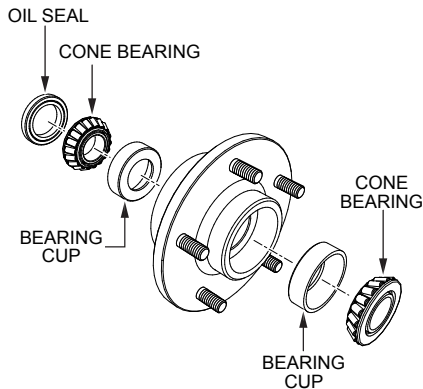

Figure 39. Wheel Hub and Bearings
1. After **every 3 months** of operation, remove the hub dust cap and inspect the wheel bearings (Figure 39). Once a year, or when required, disassemble the wheel hubs remove the old grease and repack the bearings forcing grease between rollers, cone and cage with a good grade of high speed wheel bearing grease (never use grease heavier than 265 A.S.T.M. penetration ("No. 2.")).
2. Fill the wheel hub (Figure 39) with grease to the inside diameter of the outer races and also fill the hub grease cap. Reassemble the hub and mount the wheel. Then tighten the adjusting nut, at the same time turn the wheel in both directions, until there is a slight bind to be sure all the bearing surfaces are in contact.